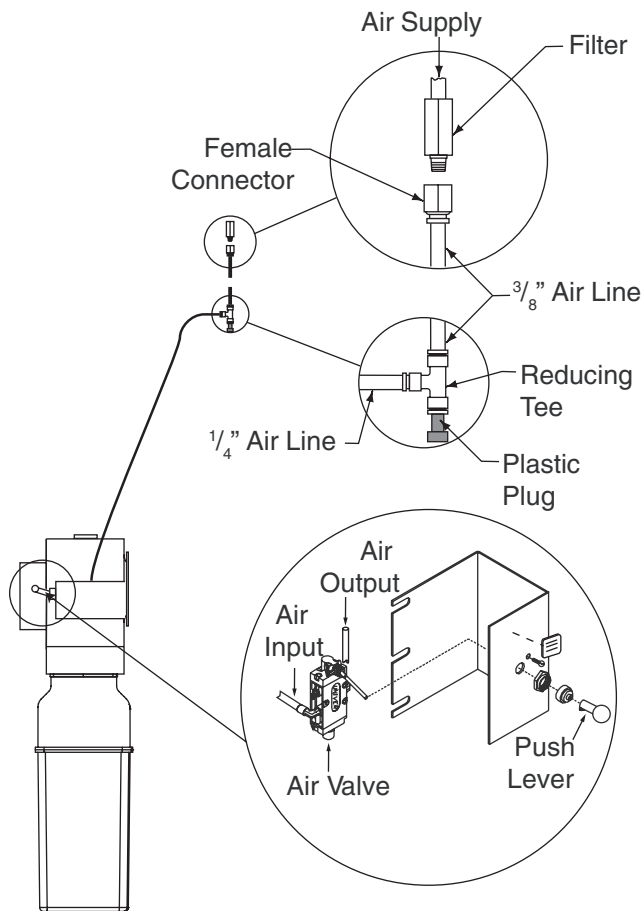

Fig. 24
- A. Connect air valve to Reducing Tee, Fig. 24. Cut provided  $\frac{1}{4}$ " air line tubing with sharp blade to length as required. Tubing must be cut square with no burrs.
- B. Use Housing Collar to secure the Air Valve to the Air Valve Bracket, Fig. 24.
- E. Connect Reducing Tee to female connector, Fig. 24, using  $\frac{3}{8}$ " air line tubing. Attach filter to female connector and connect into existing facility air supply. Make sure plastic plug is in bottom opening of Reducing Tee.
- H. Actuate air valve and check latch operation on all four (4) corners. When releasing locks, the locking latch should pull back flush with yoke end to clear the latch bar located in all four (4) columns, Fig. 24. Adjust, if required, by removing cotter pin and washer holding Slotted Bracket on locking latch and screwing Slotted Bracket in to move it toward the air cylinder. After adjustment, replace washer and secure Slotted Bracket with a new cotter pin. Tighten jam nut. Apply Loctite® to jam nut to hold in place.